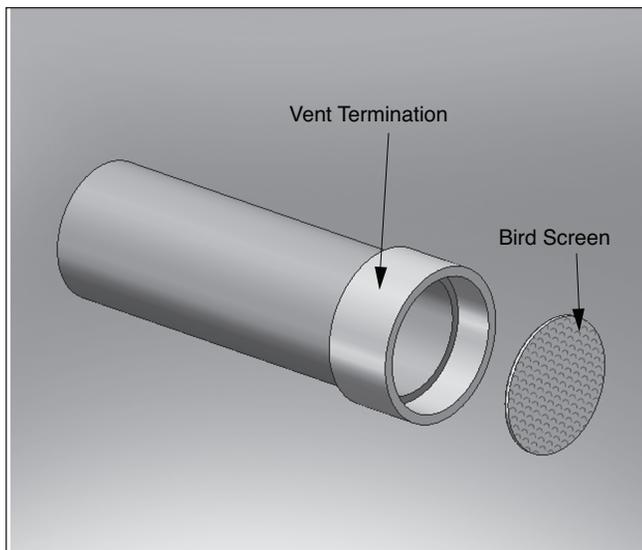
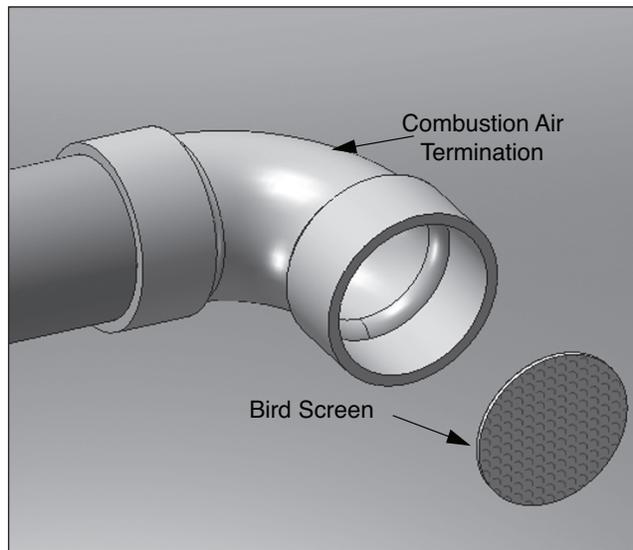

Fig. 9 - Sidewall Vent Bird Screen Installation
Fig. 10 - Sidewall Combustion Air Bird Screen Installation
1. The vent and combustion air terminations must include a factory supplied "bird screen" installed as shown in **Fig. 9 and Fig. 10 on page 20**.
1. The vent and combustion air terminations must include a factory supplied "bird screen" installed as shown in *Fig. 3 on page 16 & Fig. 10 on page 20*.